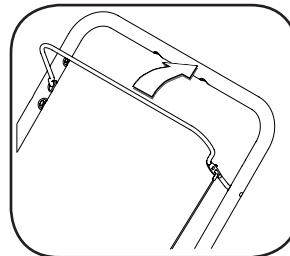

Figure 6
1. Engage the auger by squeezing the auger control handle against the upper handle. See Figure 6.